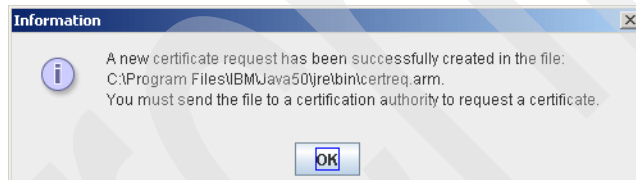

Figure 6-23 Information dialog box
3. An Information window opens (Figure 6-23), which mentions that you must send the certificate request to a CA. Click **OK**. The CA then provides you with a signed certificate.